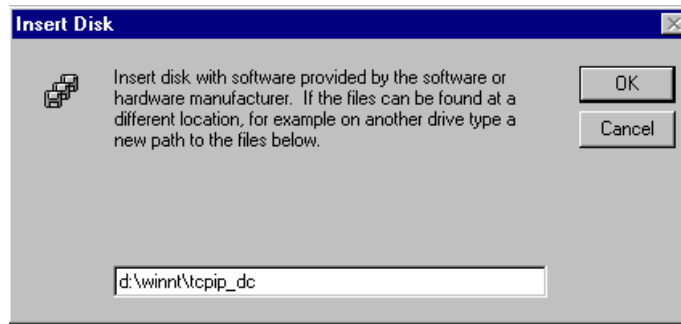

Figure 6-6. Insert Disk
4. Click the **H**ave Disk button. The Insert Disk dialog box will display (Figure 6-6).